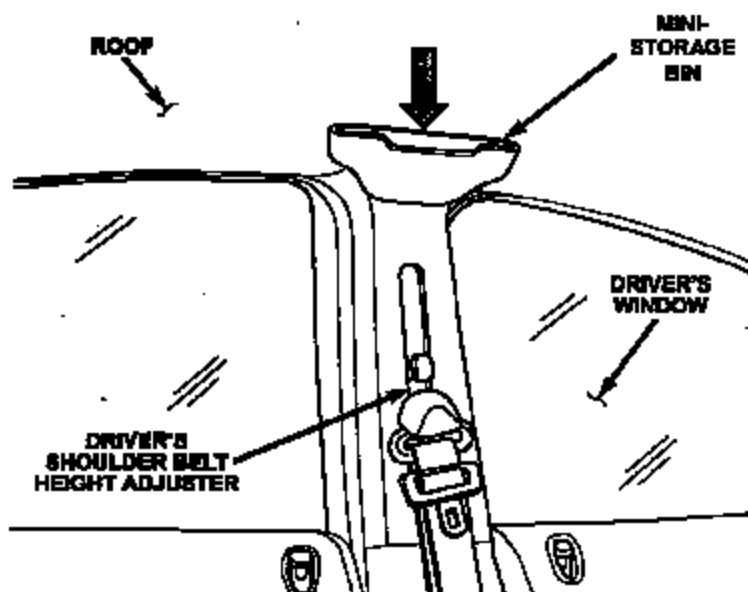

Figure 2 – Driver's Side Shown
3. Slide the mini-storage bin downward until the storage bin clips are attached to the top edge of the trim panel. Make sure that the two clips on the backside of the storage bin are fully seated on the trim panel (Figure 2).